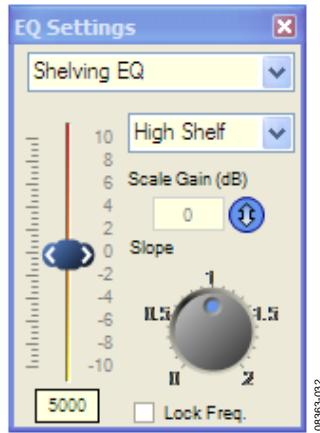

Figure 32. Filter Parameters
18. Configure the filter parameters for each band, as desired (see Figure 32).